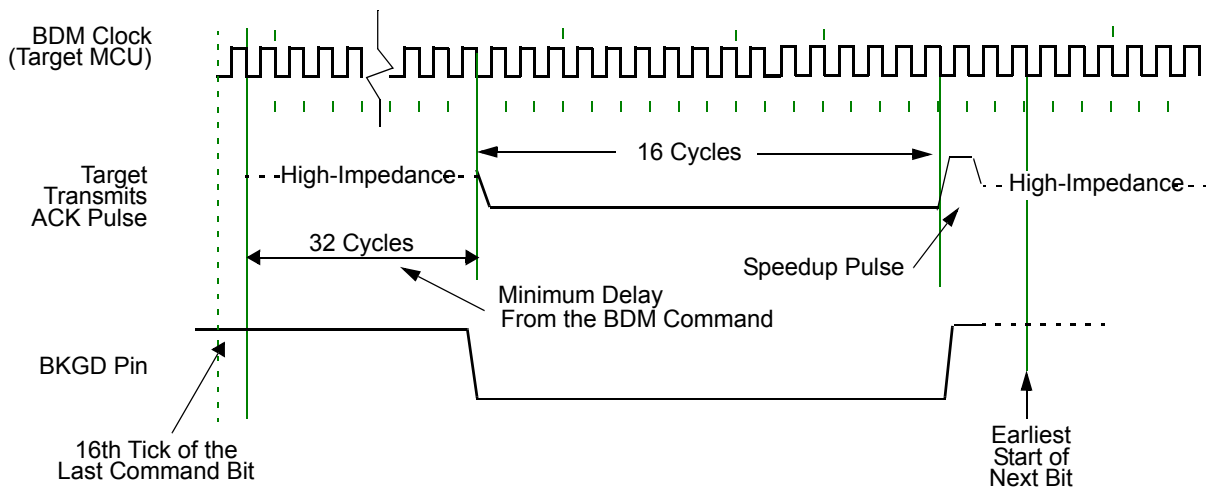

Figure 86. Target Acknowledge Pulse (ACK)
The hardware handshake protocol signals to the host controller when an issued command was successfully executed by the target. This protocol is implemented by a 16 serial clock cycle low pulse followed by a brief speedup pulse in the BKGD pin. This pulse is generated by the target MCU when a command, issued by the host, has been successfully executed (see Figure 86). This pulse is referred to as the ACK pulse. After the ACK pulse has finished: the host can start the bit retrieval if the last issued command was a read command, or start a new command if the last command was a write command or a control command (BACKGROUND, GO, GO\_UNTIL(265) or TRACE1). The ACK pulse is not issued earlier than 32 serial clock cycles after the BDM command was issued. The end of the BDM command is assumed to be the 16th tick of the last bit. This minimum delay assures enough time for the host to perceive the ACK pulse. Note also that, there is no upper limit for the delay between the command and the related ACK pulse, since the command execution depends upon the CPU bus, which in some cases could be very slow due to long accesses taking place. This protocol allows a great flexibility for the POD designers, since it does not rely on any accurate time measurement or short response time to any event in the serial communication.
Differently from the normal bit transfer (where the host initiates the transmission), the serial interface ACK handshake pulse is initiated by the target MCU by issuing a negative edge on the BKGD pin. The hardware handshake protocol in Figure 86 specifies the timing when the BKGD pin is being driven, so the host should follow this timing constraint to avoid the risk of an electrical conflict on the BKGD pin.